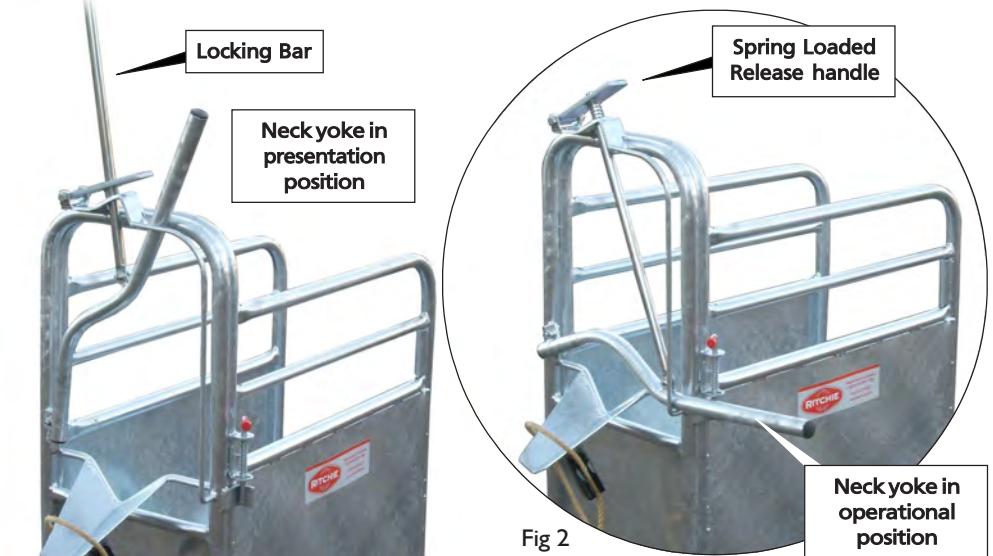

Fig 1
Figures 1 and 2 show the neck yoke in both the presentation and working positions. Press down on the spring loaded release handle to raise the yoke bar.
**Note: Do not apply oil or grease to the release mechanism or locking bar - Figures 1 & 2.**